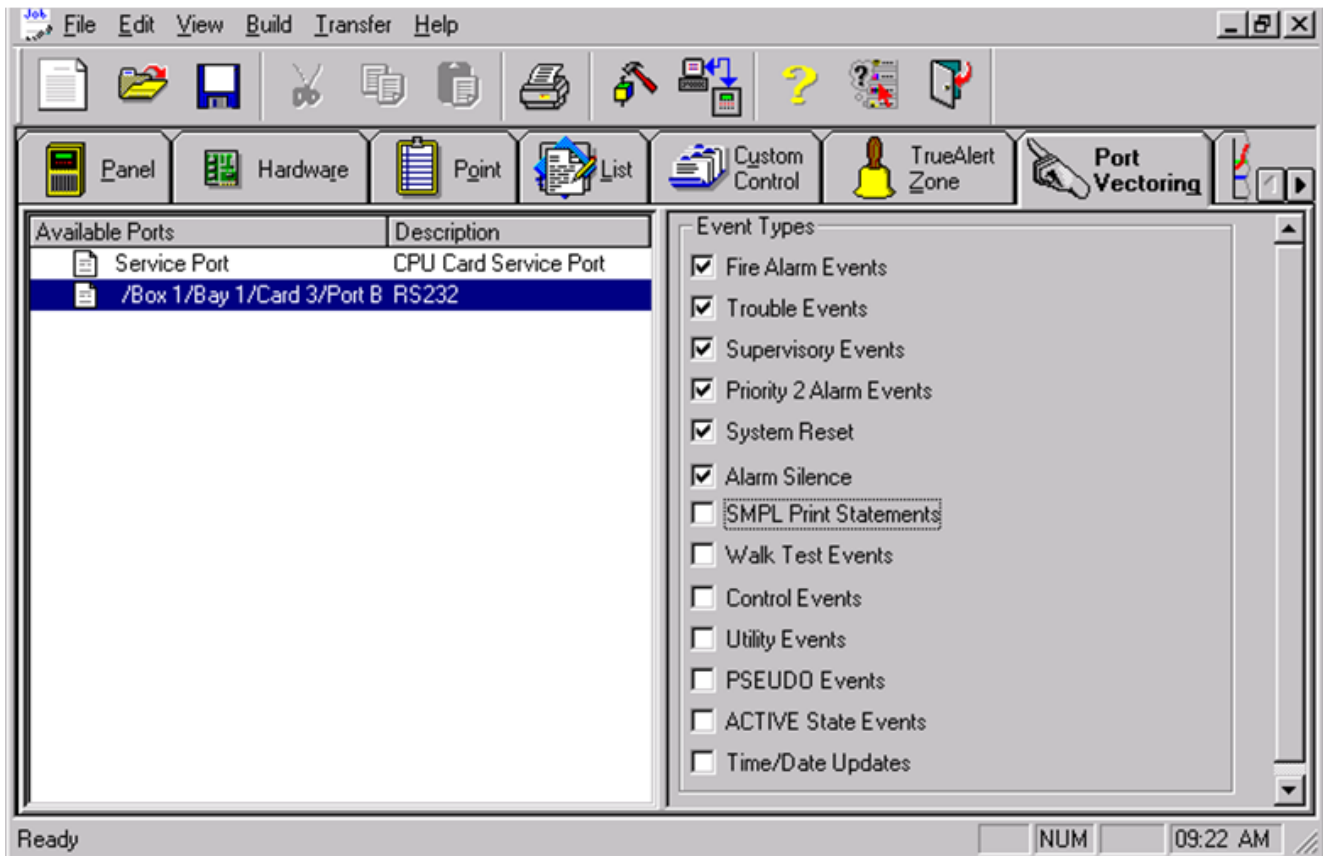

Figure 23. Event Reporting Option (4100U software shown)
- As shown in Figure 23, enable the Fire Alarm, Trouble, Supervisory, and Priority 2 Alarm Events as well as System Reset and Alarm Silence by checking off the field next to each event type. Leave the remaining event types disabled.